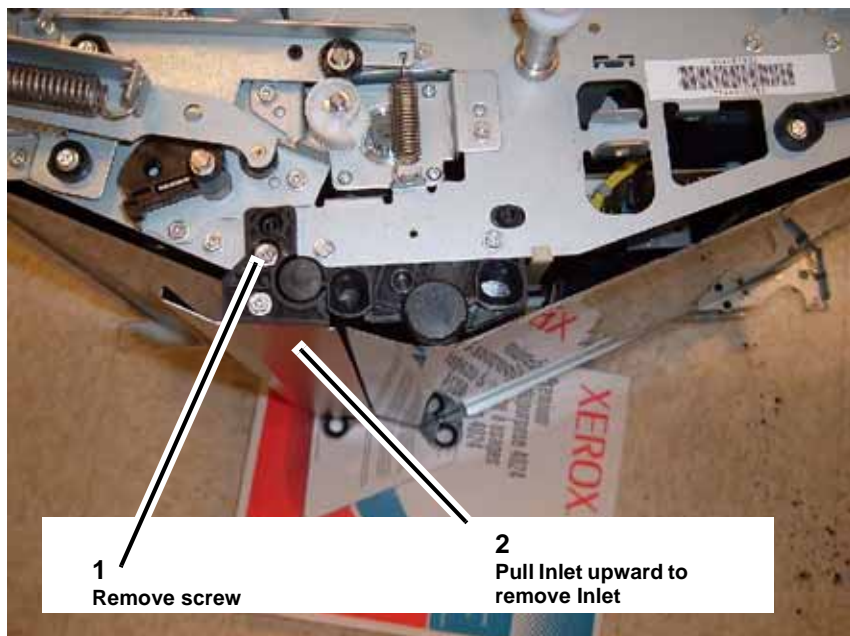

Figure 3 Removing the Inlet
3. Remove the Inlet (Figure 3).